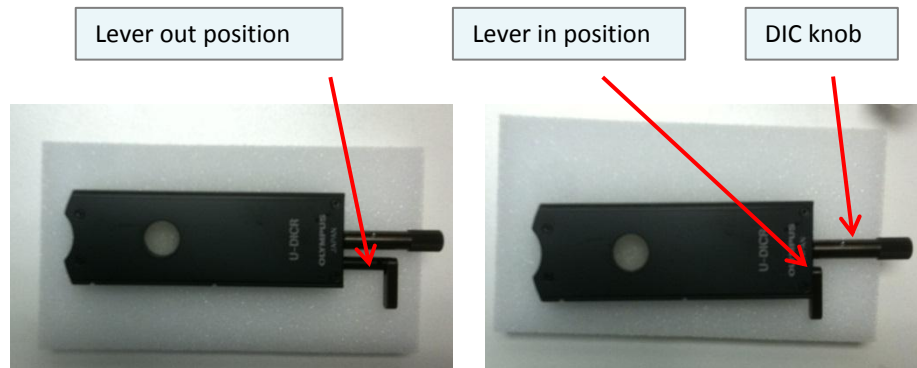

Fig. 39. DIC prism set for long working distance (left) and standard (right)
4. Install the DIC prism and set the lever to the appropriate position for the objective (out for long working distance objectives and in for standard objectives). The lever positions are shown in Fig. 39.